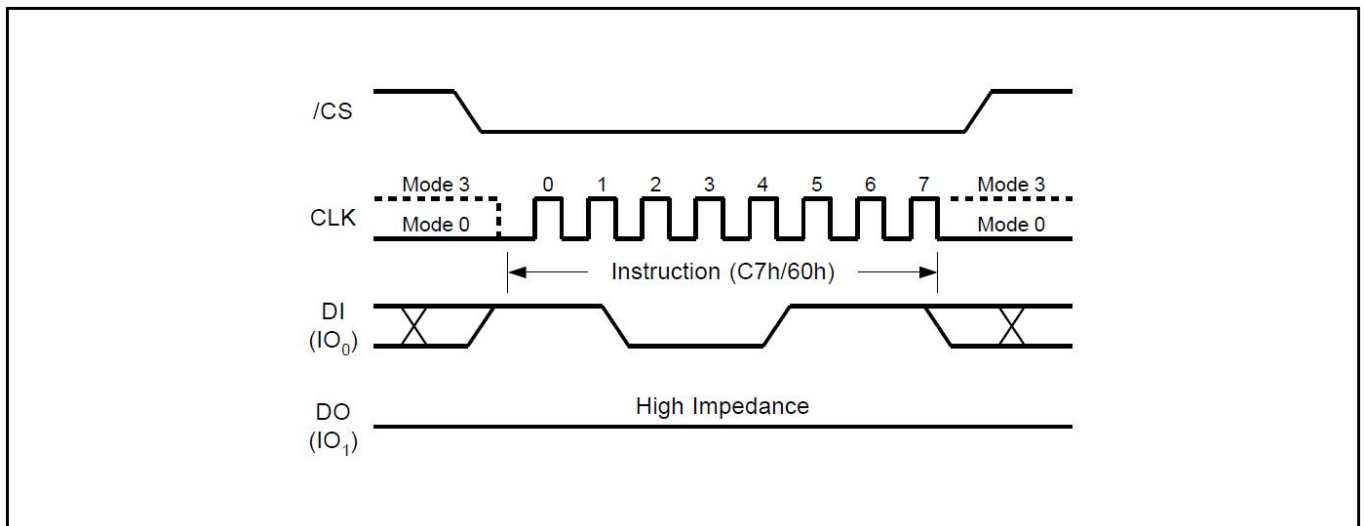

Figure19. Chip Erase Sequence Diagram
The Deep Power-Down Mode automatically stops at Power-Down, and the device always in the Standby Mode after Power-Up. The Deep Power-Down command sequence: CS# goes low → sending Deep Power-Down command → CS# goes high. The command sequence is shown in Figure19. CS# must be driven high after the eighth bit of the command code has been latched in; otherwise the Deep Power-Down (DP) command is not executed. As soon as CS# is driven high, it requires a delay of t_{DP} before the supply current is reduced to ICC2 and the Deep Power-Down Mode is entered. Any Deep Power-Down (DP) command, while an Erase, Program or Write cycle is in progress, is rejected without having any effects on the cycle that is in progress.